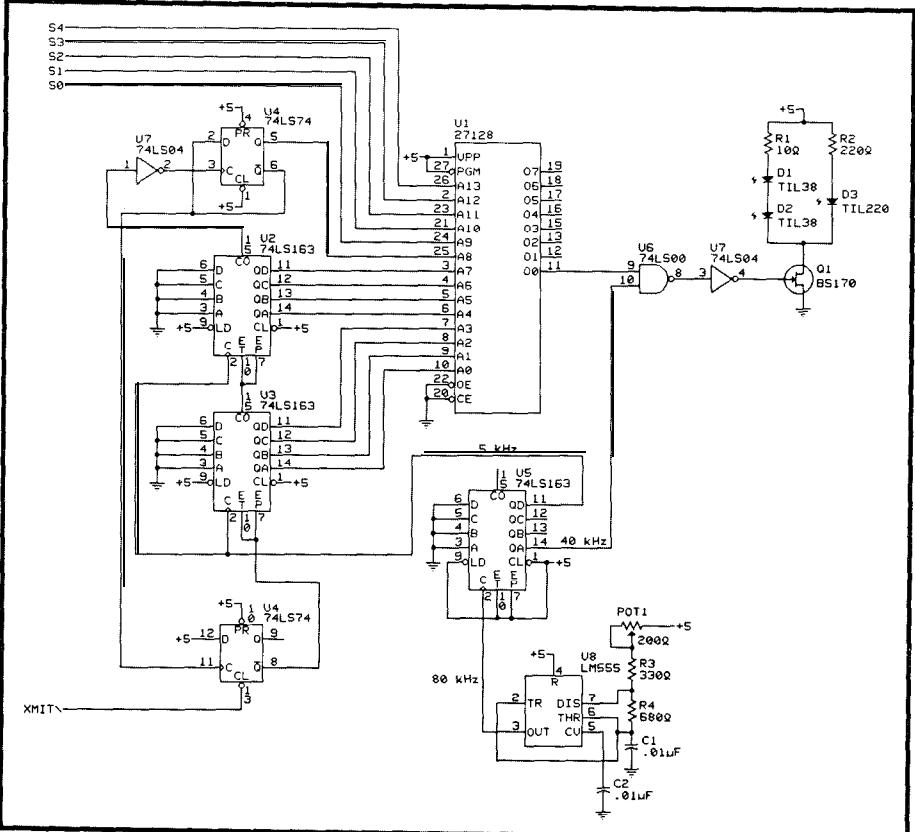

Figure 2—The basic circuit used for generating X-10 IR codes consists mostly of an EPROM, a few counters, and a master clock.
It is possible to interface a simple IR LED driver circuit to an output bit on a personal computer, then drive the LED with some software to train the trainable remote, but it was more fun to build a dedicated, hardware-only board to generate the IR command strings. Using a hardware-only solution also opened the door to the addition of a real keyboard so those who don't have a trainable remote and don't want to spend the money on one can build a usable dedicated remote for use with the IR543. Figure 2 shows the basic circuit for generating the IR commands. Figure 3a has the additional circuits necessary to build a one-time-use-only circuit for use with trainable remotes, and Figure 3b shows what is necessary to add a keyboard to the circuit.
A typical processing unit (PU) operation is shown in Figure 2. Within the PU, inputs are modified by the